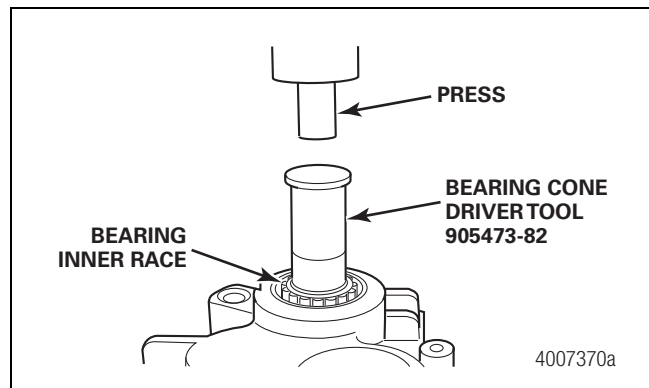

Figure 6.21
5. Use a bearing cone driver, tool number 905473-82, and a press to press the bearing down on the shaft until it is fully seated. Press only on the inner race of the bearing during installation. Figure 6.21.